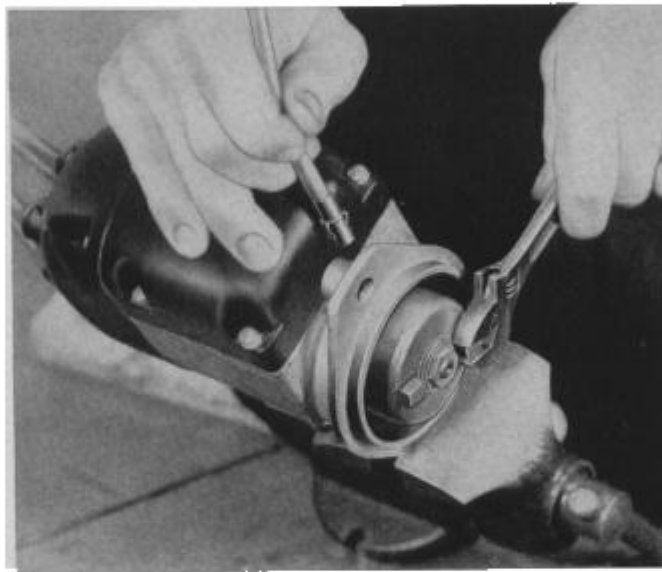
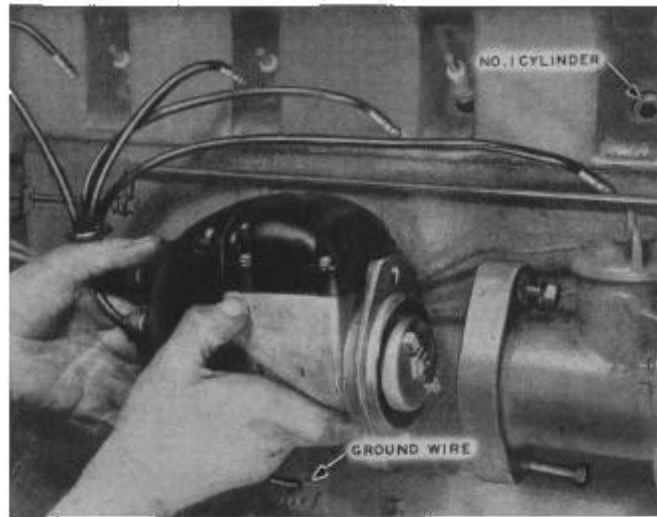
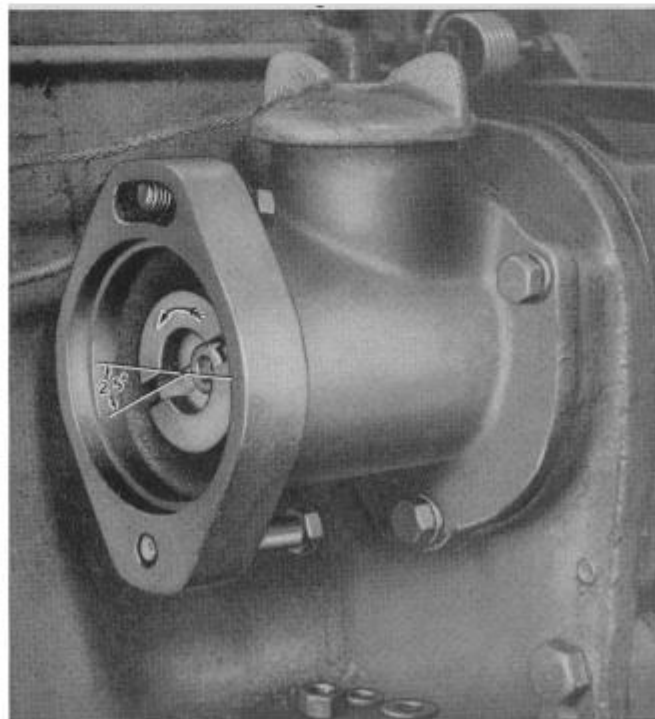

Figure 20. Locating No. 1 Firing Position in Magneto
Figure 21. Magneto in Proper Position for Installing on Engine
Figure 22. View of Coupling in Governor Bracket
6. Support the magneto in an upright position, as shown in Figure 21. Connect one of the spark plug wires to No. 1 terminal on the magneto cap. The terminal is marked 1 and is the upper-right hand terminal. Hold the free end of the spark plug wire about $\frac{1}{8}$ inch from the frame of the magneto. Turn the impulse with the wrench one click at a time, Figure 20, until a spark jumps between the wire and the frame. Use care to hold the wrench and magneto firmly so impulse will not move beyond the point where it trips and the spark occurs. The position at which the spark occurs indicates the approximate setting of the magneto for firing position of No. 1 cylinder. The position of magneto driving slots when the piston is at top dead center is 25 degrees (or two teeth) beyond the horizontal center line in direction of rotation as shown in Figure 22.